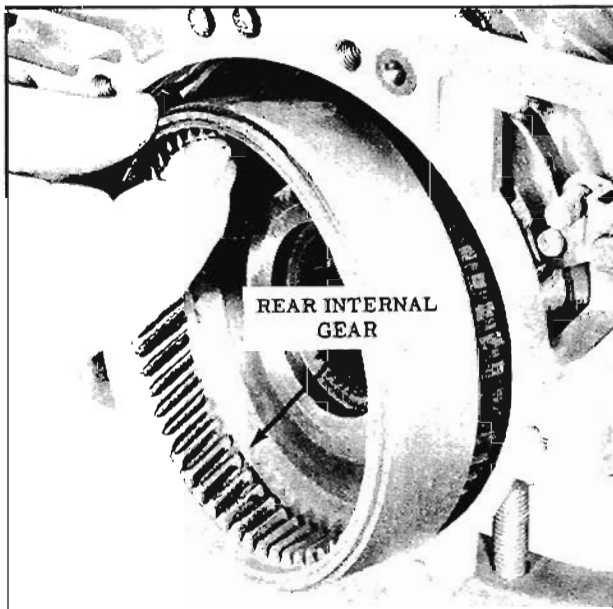

Fig. 6-43 Removing Internal Gear
6. Make certain parking pawl is disengaged, then remove the rear unit internal gear and clutch assembly. (Fig. 6-43)